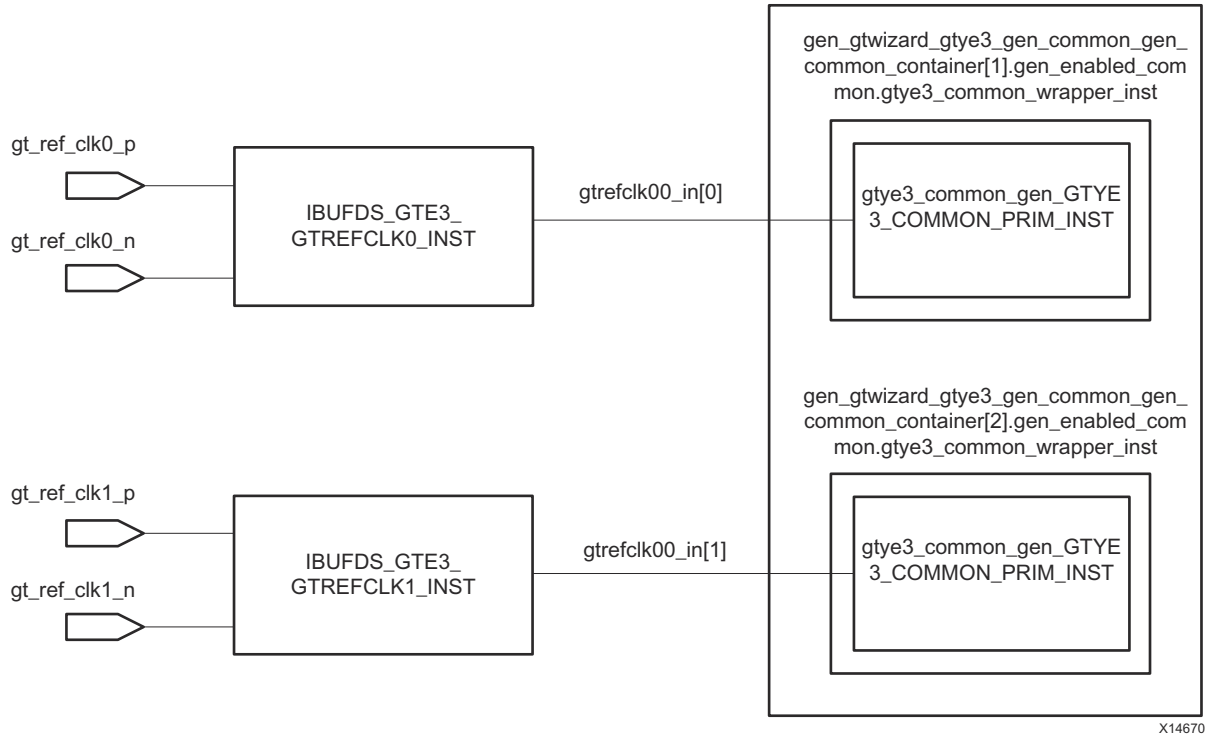

Figure 5-2: 25 Gb/s Reference Clock
- two pairs of *gt\_ref\_clk* pairs available to drive the two IBUFDS, as shown in Figure 5-2.